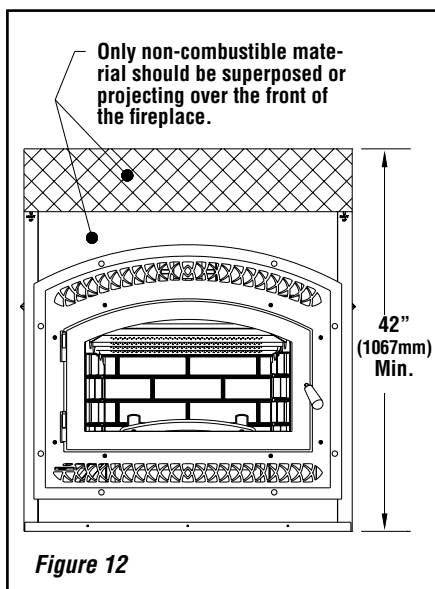

Figure 12
1. Combustible material must be installed flush with the fireplace. It may not project in front of and on the fireplace (i.e. the steel facade of the fireplace) (Figure 12).